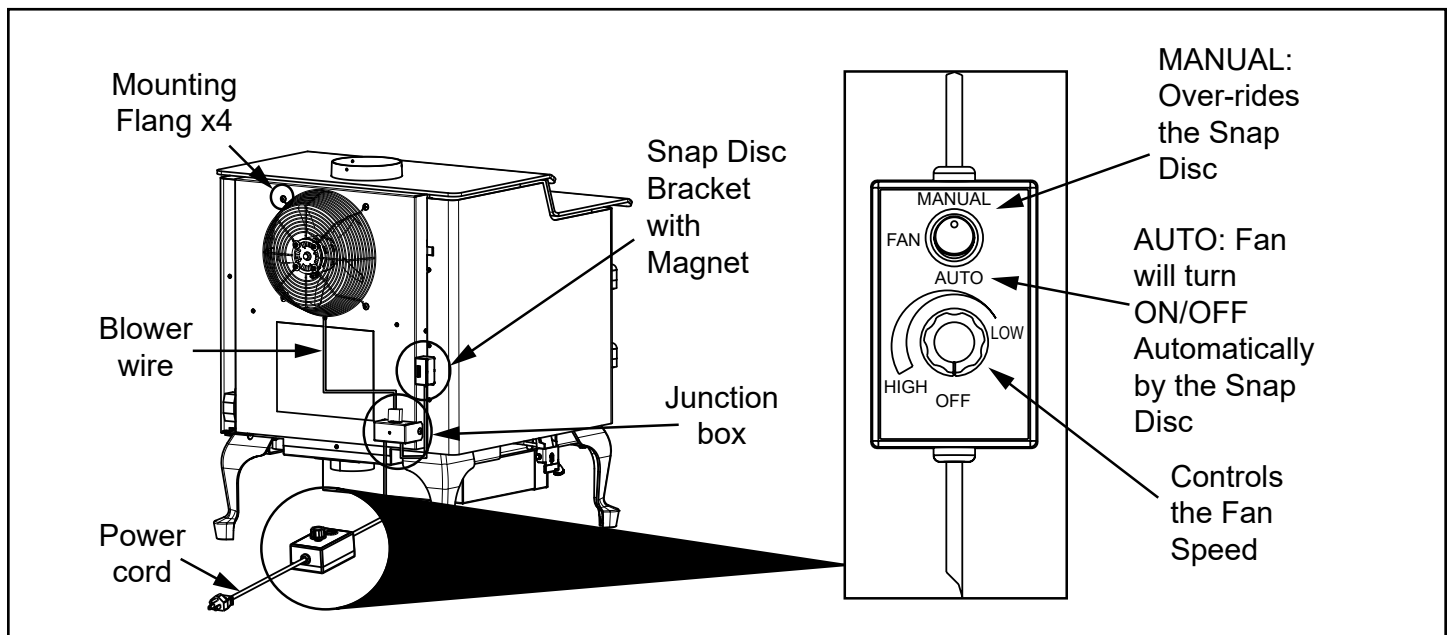

Figure 24.1
NOTE: Blower wire should be positioned towards the bottom as shown in **Figure 24.1**
4. Using #2 Phillips head screwdriver and 4x screws secure blower to appliance (**Figure 24.1**).
6. Install junction box to the bottom right back of the appliance shown in **Figure 24.1** by inserting tab into slot and aligning flange; secure with 1x screw by using #2 Phillips head screwdriver.
7. Place the bracket containing the snap disc and magnet lower right side of the appliance as shown is **Figure 24.1**.